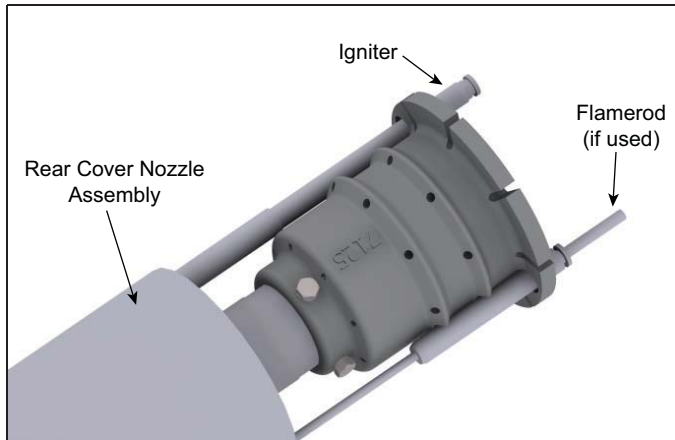

Figure 3.17.
2. Thread igniter through rear cover and through hole in nozzle. See Figure 3.17.
3. Thread flamerod (if used) through hole in rear cover and hole in nozzle. See Figure 3.17.